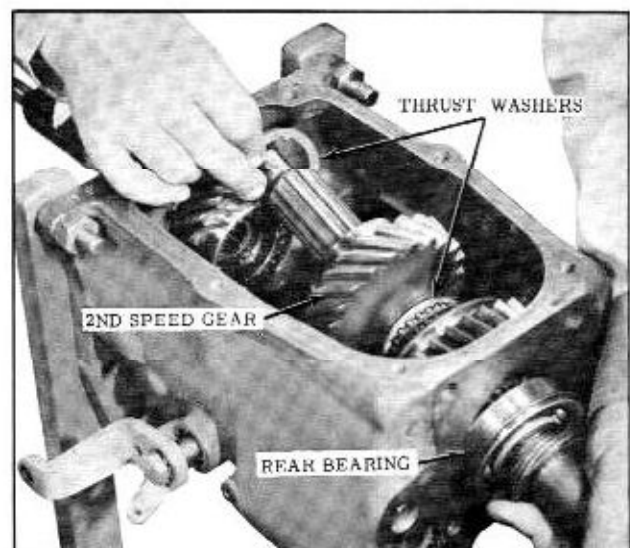

Fig. 11-11 Removing Second Speed Gear
9. Remove the keyed thrust washer, the second speed gear, and the rear thrust washer from the main shaft. (Fig. 11-11)